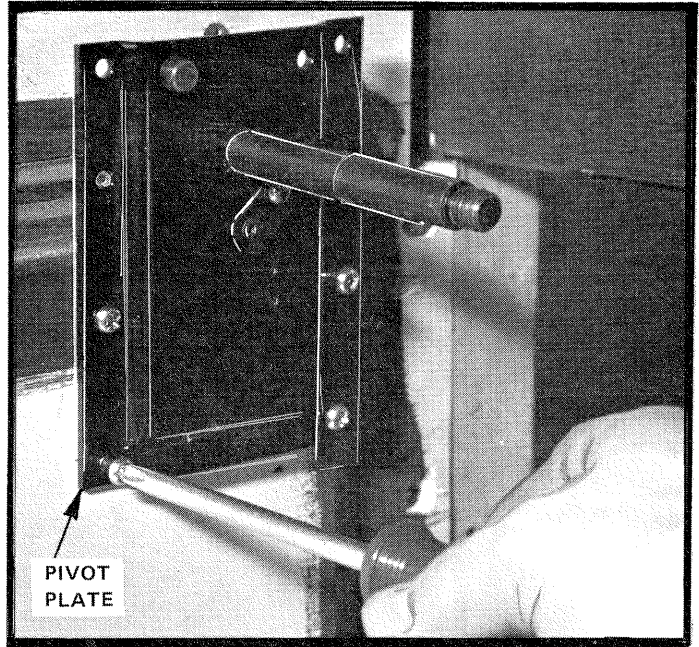

FIGURE 4-6 Mount the Pivot Plate on the Keybed.
Refer to FIGURE 4-6 while reading through STEPS 4-8 through 4-11.
Mount the Pivot Plate on the Keybed with the eight (8) #8 X 3/4" Hex Washer Hd. Screws as shown in FIGURE 4-6. (Apply parafin or soap to the screws to ease their installation.)